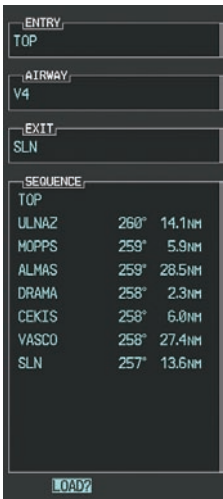

Figure 5-110 Ready to Load V4
- j) Press the **ENT** Key. The selected airway and exit are displayed, and the prompt “LOAD?” highlighted as in Figure 5-110.